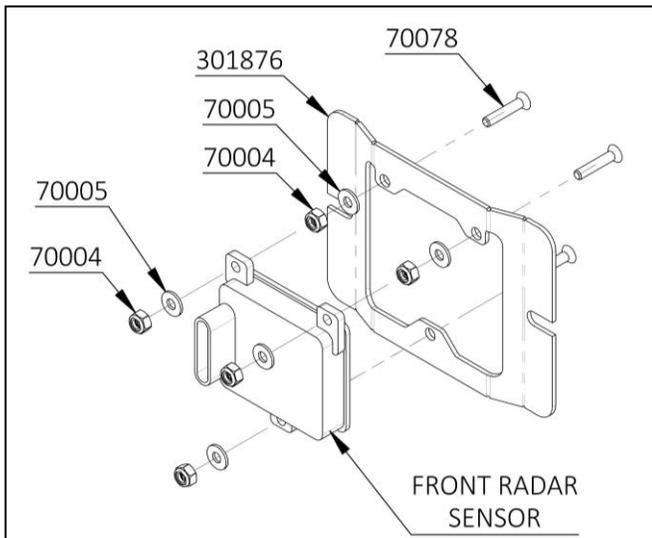

Figure 14: Radar Sensor Bracket (No. 10 Fasteners)
19.  Install the OEM front radar sensor onto the FRONT RADAR SENSOR HOUSING [301876], using the 10-32 X 1 FHCS, washers, and locknuts. **See Figure 14.**